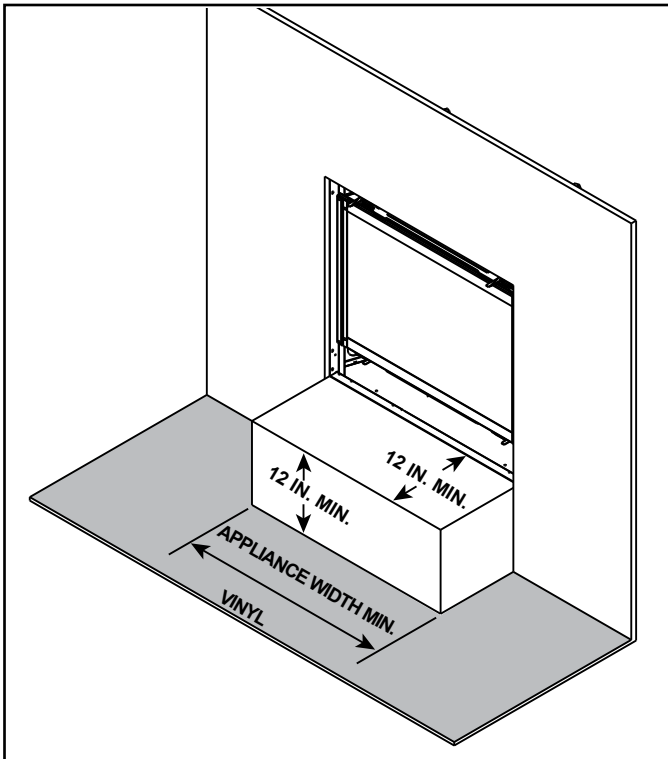

Figure 3.18 Vinyl Flooring Recommendations
- Combustible flooring may be located in front of the appliance. See Figure 3.18 for vinyl flooring recommendations.
Vinyl flooring is sensitive to heat. To avoid damage to the vinyl flooring, a 12 inch minimum x 12 inch minimum hearth is recommended when using vinyl flooring up to the wall. See Figure 3.18. If no hearth is used, it is recommended to provide a minimum of 24 inches of clearance in front of the appliance to the vinyl flooring OR the bottom of the appliance should be raised a minimum of 24 inches off of the floor to allow the vinyl flooring to be installed up to the wall.